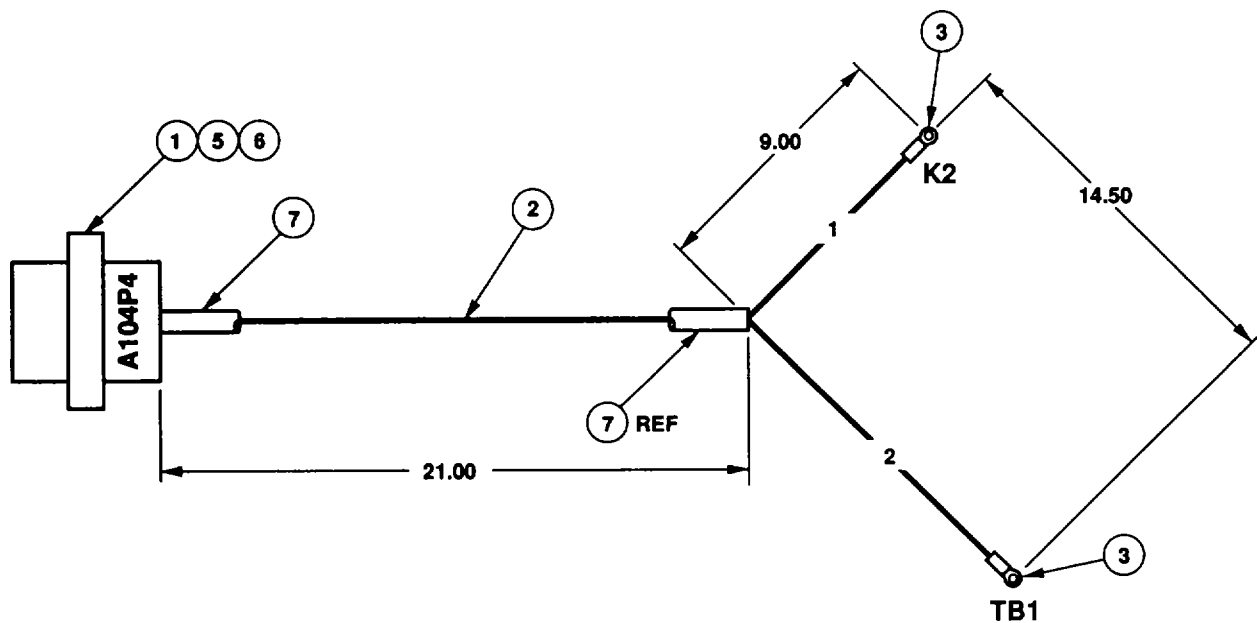

Figure F-10. Wiring Harness A104P4.
- b. Remove and discard cable clamp adapter (Figure F-10, 5), insulation sleeving (6), and insulation sleeving (7) from connector (1) and wiring.
- d. Cut wire to dimensions shown in Figure F-10.
- f. Install wire in connector (1).
- g. Install new cable clamp adapter (5), insulation sleeving (6), and insulation sleeving (7), as shown in Figure F-10, and heat shrink to a firm fit.